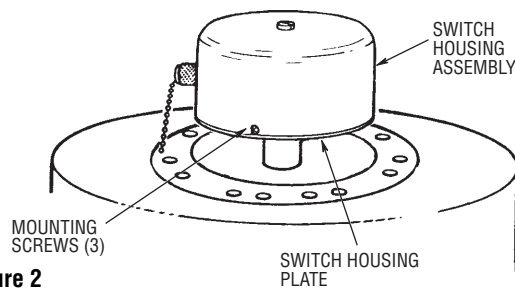

Figure 2
2. Remove the three switch cup screws from the switch housing plate. Position the switch housing assembly on the switch housing plate and align the holes in the switch housing assembly with the holes in the plate. Secure the switch housing assembly by installing the three screws (Figure 2).